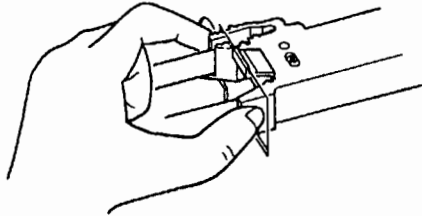

Fig 6.9
- (10) When replacing the ribbon cassette, pinch the cassette latchlevers, then pull the cassette out of the hole. (Fig. 6.9) Use the same procedure when installing new cassettes.
- (11) Fit the projections on the chart tray into the notches in the recorder and push the tray toward the recorder until it clicks.